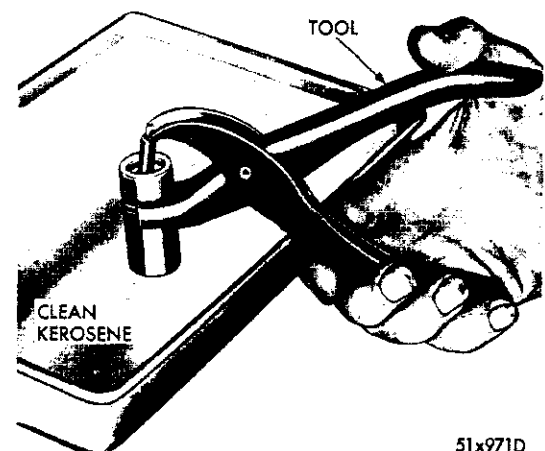

Fig. 23—Testing Tappet Using Tool C-3160
- (1) Fill a pan with clean kerosene.
- (2) Remove the cap from the plunger and completely submerge the tappet in an upright position.
- (3) Allow the tappet to fill with kerosene, remove the tappet, and replace the cap.
(4) Hold the tappet in an upright position and insert the lower jaw of pliers, Tool C-3160, in the groove of the tappet body (Fig. 23).
(5) Engage the jaw of the pliers with the top of the tappet plunger. Test leakdown by compressing the pliers. If the plunger collapses almost instantly as pressure is applied, disassemble the tappet, clean and test again. (Fig. 23)
(6) If the tappet still does not operate satisfactorily after cleaning, install a new tappet assembly.